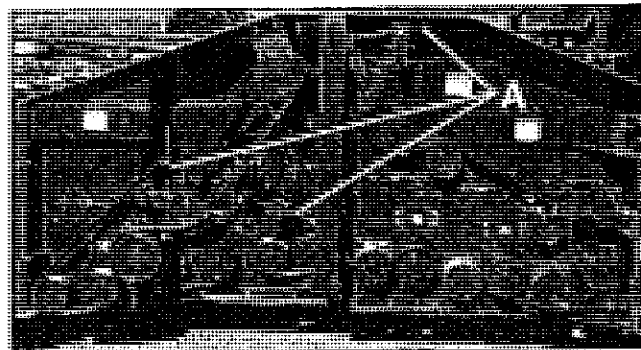

Figure 2.18: Left Hand Drives (Shields Removed for Clarity). (A) - Springs.
The conveyor rolls and grab roll drive belts are tensioned by spring loaded idlers (see Figure 2.18). These should be tightened so the springs (A) are compressed to 4-1/2" for all three (3) drives. Recheck tension frequently and retension promptly if slippage occurs.
Tension roller chains by moving idler sprocket in slots (see Figure 2.15). Check tension frequently. Tension so approximately 20 lbs. force deflects chain 1/2" to 1". (See also Figure 2.18.)